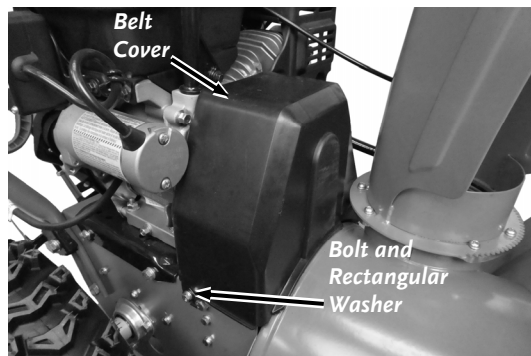

Figure 52
1. Remove the two Bolts and rectangular Washers from the Belt Cover using a 10mm Wrench and remove the Belt Cover (**Figure 52**).